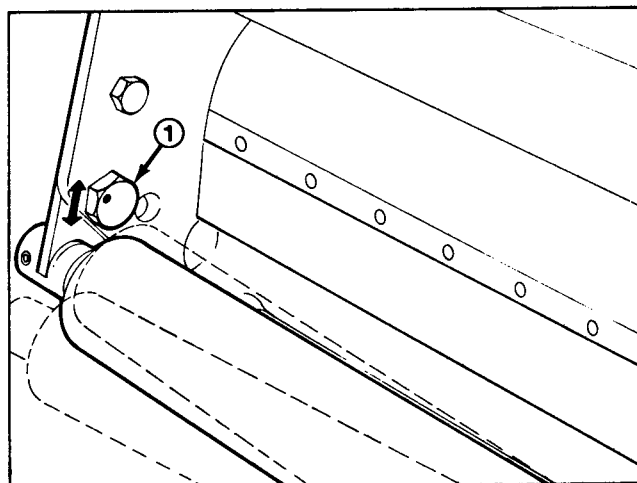

Figure 13
7. While holding reel securely on plate, level roller by rotating lower left roller pivot bolt. The pivot bolt has an offset thread which when rotated, acts as a cam to raise or lower the roller. On the bolt head there is an identification dot (Fig. 13) which denotes the offset of the bolt. Dot indicates in which direction left end of roller moves when bolt is turned.